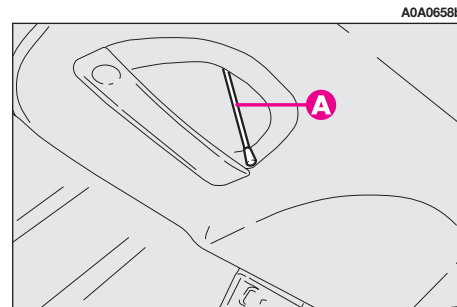

fig. 144
- unlock the lock by pulling the string (**A**-**fig. 144**) (the string is located inside the right recess in the tailgate).